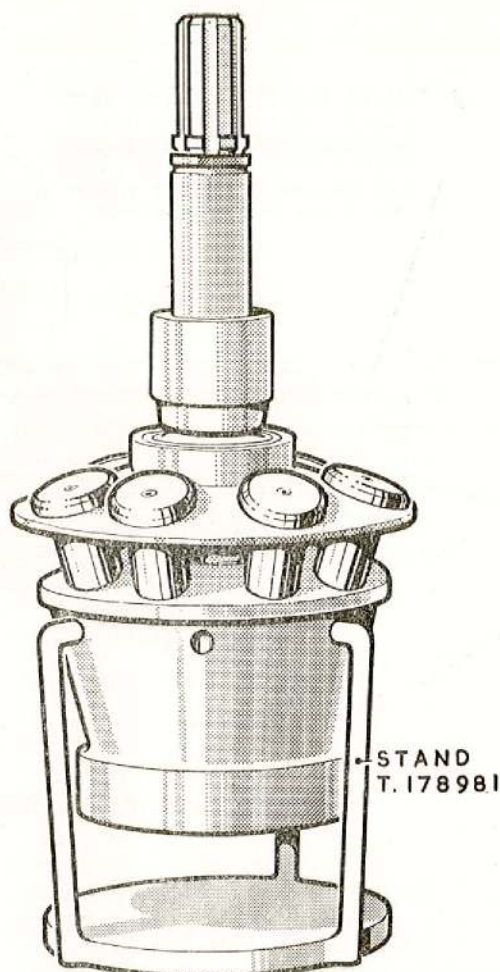

Fig. 12. Storage stand for rotor
39. Lift out the rotor assembly from the pump housing and place it on the stand T.178981 as shown in fig. 12. Remove the piston and slipper assemblies, spring seats and piston springs from the rotor assembly. The rotor bores are numbered, therefore note the respective bore of the rotor from which each piston is removed and place each piston on the appropriate peg on stand